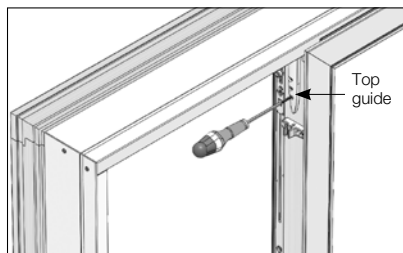

Figure 2: Guide removed at top
3. Remove the guide at the top on the rear edge of the master sash. It is not necessary to remove the bottom guide (figure 2).